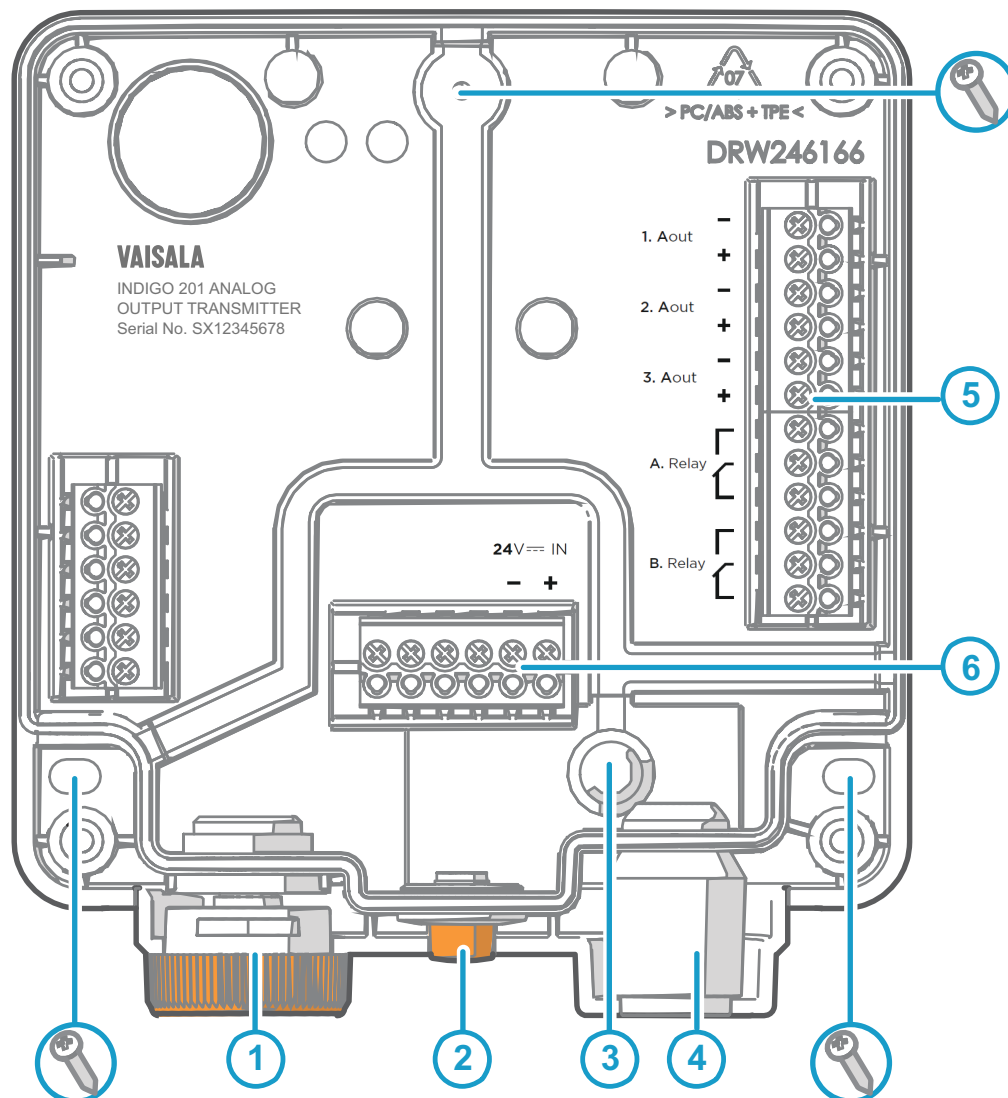

Figure 3 Indigo 201 Transmitter Base Main Parts and Screw Positions
4. Place the transmitter base on the installation surface and mount it with 3 screws. See the screw positions in Figure 3 \(page 9\).